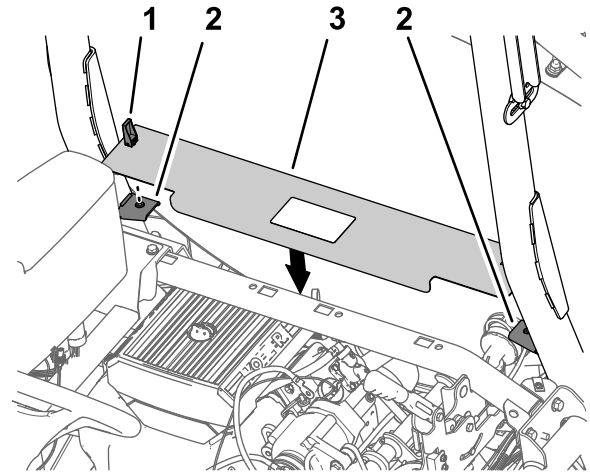

Figure 257
1. Align the latches of the engine access panel with the bushings in the panel-support brackets on the roll bar (Figure 257).
2. Assemble the panel onto the brackets (Figure 257).
3. Rotate the handles latches down to secure the panel to the brackets (Figure 257).